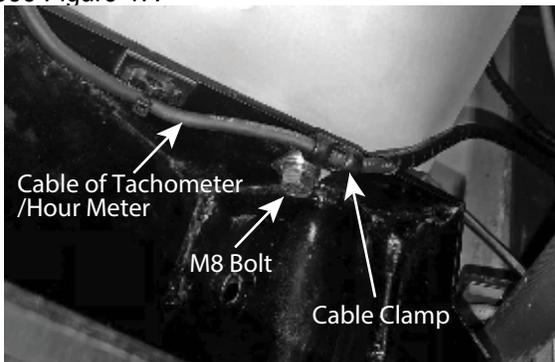
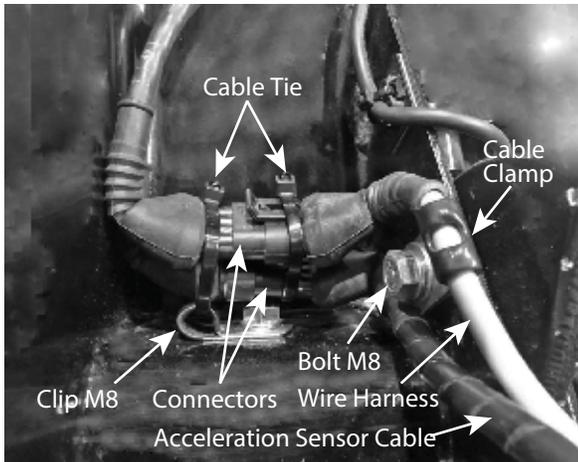

Figure 47. Cable Clamp Removal
Figure 50. Secure Cable Connections
- Remove the 8 mm bolt securing cable clamp on the lower right side of back of rear cover and remove the cable clamp from the cable of Tachometer / Hour meter. See Figure 47.
- Place the cable clamp that was removed earlier (Figure 47) to wire harness (P/N 467358210). Then, Secure the cable clamp placing the wire harness with 8 mm bolt. See Figure 50.
- Secure the connectors to the clip M8 with cable ties. See Figure 50.